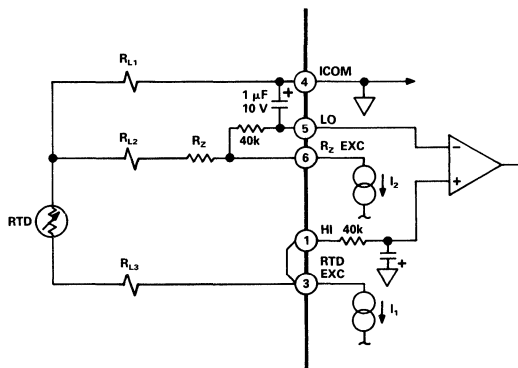

Figure 2. 3-Wire Compensation
**3-Wire Compensation:** The 1B41 accomplishes 3-wire compensation by using matched current sources on both RTD EXC (Pin 3) and  $R_z$  EXC (Pin 6). Figure 2 shows lead wires with resistances of  $R_{L1}$ ,  $R_{L2}$  and  $R_{L3}$ . The following equation describes the error voltage caused by lead resistance and the current source mismatch.